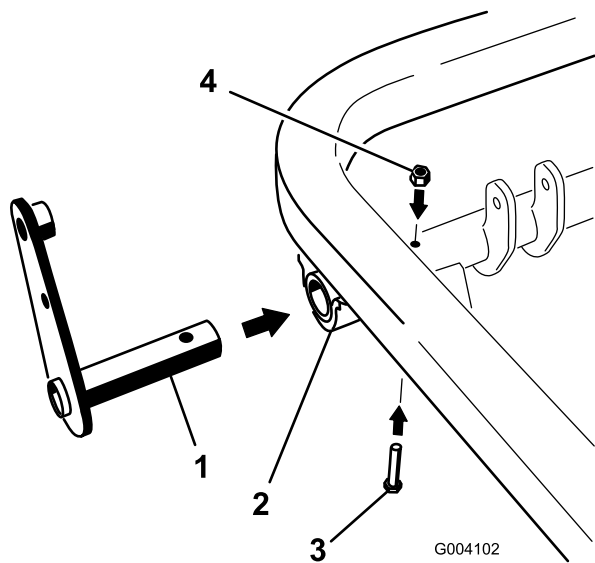

Figure 12
1. Slide the post on the lever assembly into the left end of the pivot tube and secure it with a bolt (5/16 x 2 inches) and locknut (5/16 inch) through the pivot tube (Figure 12).